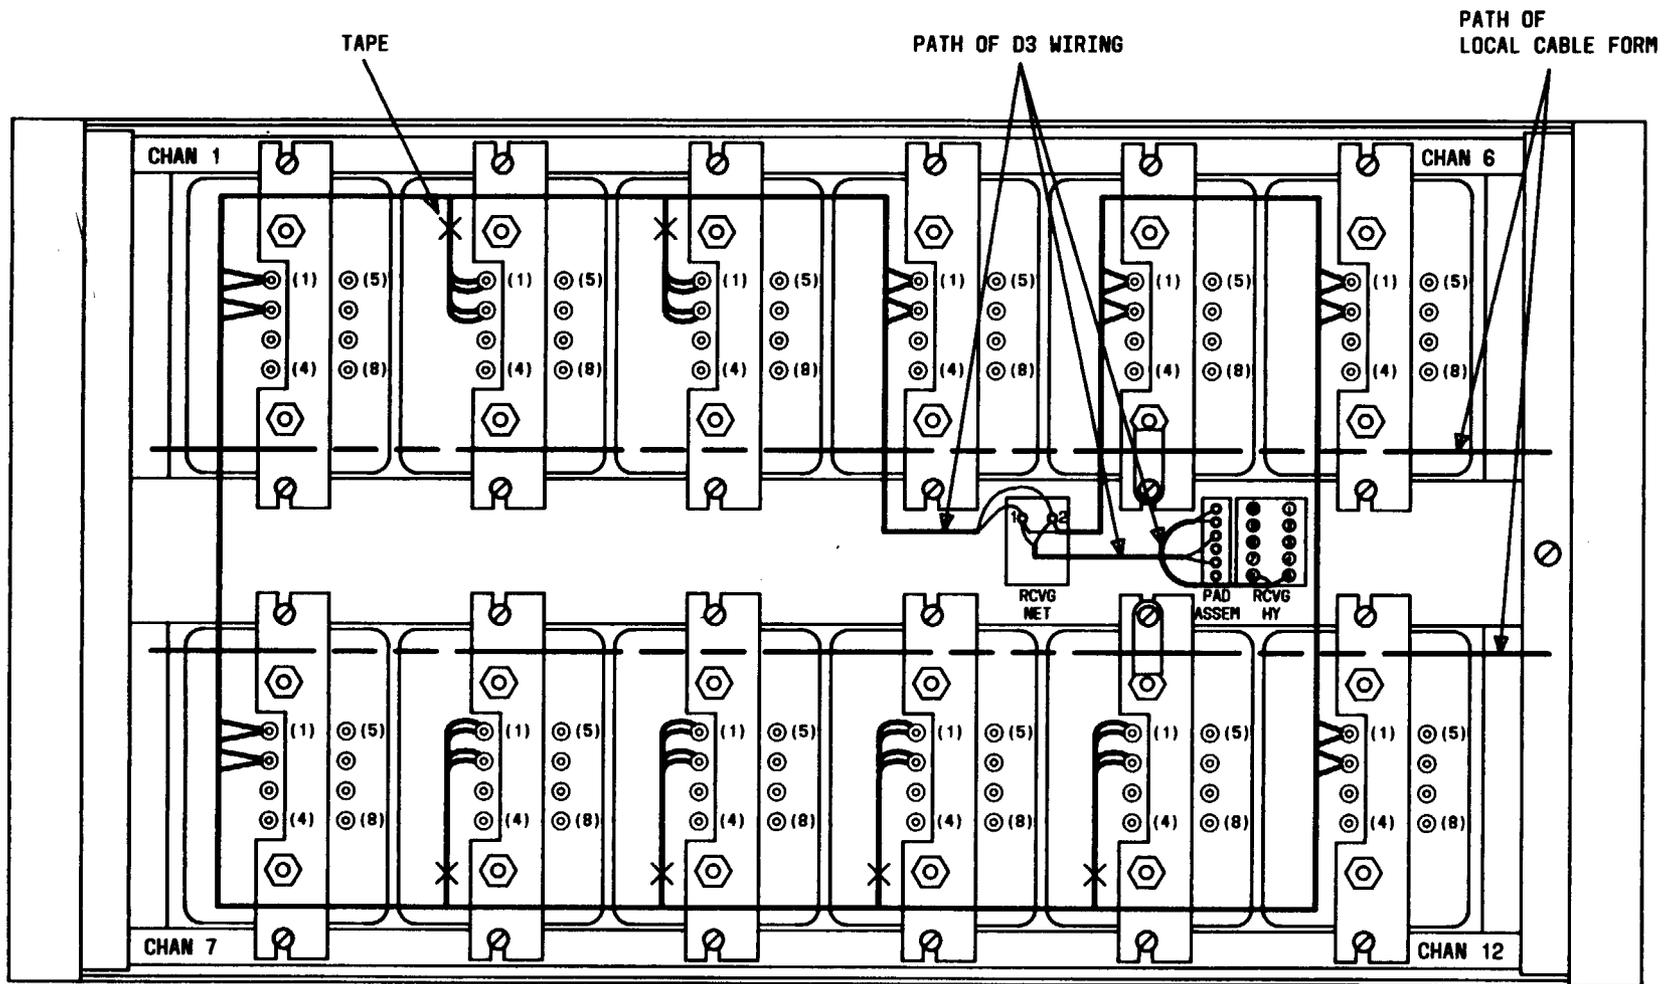

Fig. 14—Path of Receiving High-Frequency Leads in A5 Channel Bank (Banks Manufactured After October 1, 1961)
16	<p>If the requirement of Step 13 was not met for some channels,</p> <ul style="list-style-type: none">(a) Observe whether or not the type 561 channel filter associated with all channels having excessive intrachannel crosstalk has a star imprinted between, and slightly to the left of, Terminals 2 and 3 of the filter.(b) If any filter does not have a star imprint, replace it with a starred unit as follows:<ul style="list-style-type: none">(1) Unsolder all leads connected to Terminals 1 and 2 of all unstarred filters; then, cut these leads back to the point where they enter the cable form.(2) Unsolder the three pairs of twisted leads connected to Terminals 1 and 2 of the RCVG NET; then, unsolder the pair that connects to the ED-50077-30 pad assembly and remove this pair from the cable form. Cut back the other two pairs to the point where they enter the cable form.(3) Unsolder the pair of leads connected to Terminals 5 and 6 of the RCVG HY; then, unsolder this pair from the ED-50077-30 pad assembly and remove it from the cable form.(4) Remove all filters not having a star imprint and replace each with the type having a star imprint.(5) Connect and solder a length of 24-gauge, twisted-pair wire from Terminals 1 and 2 of the RCVG NET to Terminals 1 and 2 of each of the 12 channel filters in the bank. Connect Terminals 1 and 2 of the last filter in the string to Terminals 1 and 2 of the RCVG NET to form a closed loop as shown in Fig. 14. Be sure that all No. 1 terminals in the loop are connected to one lead of the pair and all No. 2 terminals are connected to the other lead.(6) Complete the D3 wiring illustrated in Fig. 14 by connecting:<ul style="list-style-type: none">(a) Terminals 1 and 2 of the RCVG NET to Terminals 3 and 5 of the ED-50077-30 pad assembly.(b) Terminals 1 and 2 of the pad assembly to Terminals 5 and 6 of the RCVG HY. Form the leads and tape as shown in Fig. 14.(c) Repeat from Step 1 for all channels in the bank under test.(d) Repeat Charts 1 through 6 for the channel bank under test.